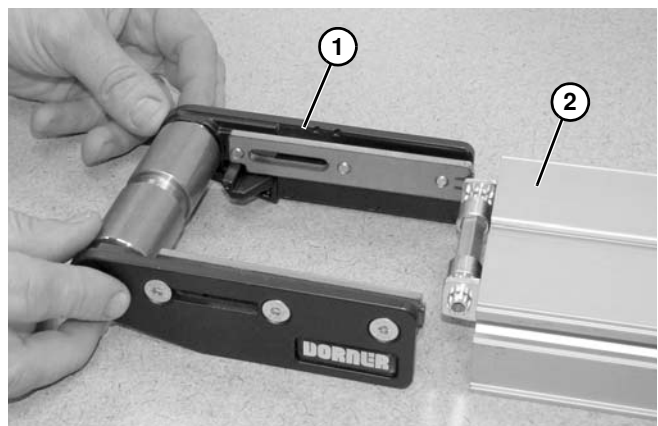

Figure 107
2. Remove idler tail (**Figure 107, item 1**) by sliding off of the conveyor (**Figure 107, item 2**).